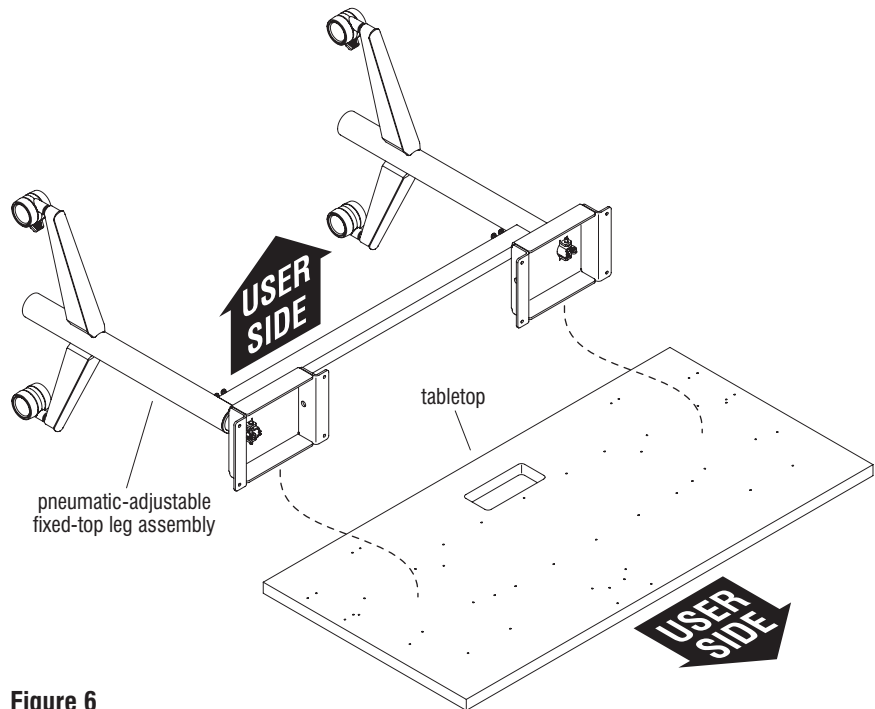

Figure 6
15. Carefully place the tabletop upside down on a soft, protective surface. Take note that the “user side” of the tabletop has pilot holes for the cable actuator assembly near the middle, front edge. Carefully position the non-user side of the pneumatic-adjustable fixed-top leg assembly onto the tabletop as illustrated (Figure 6).